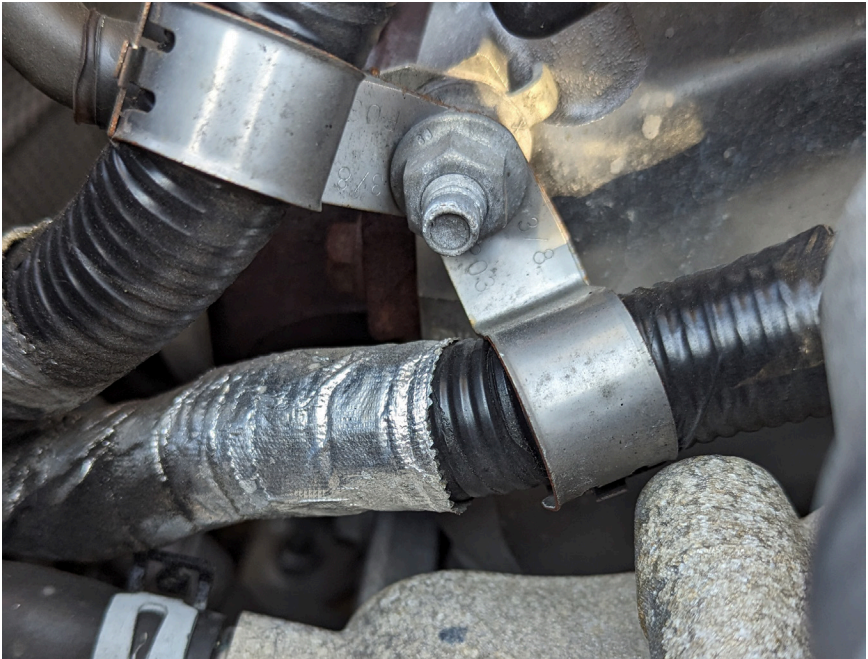

Figure 1 - Stud and Clamps to Remove from Right Side Cylinder Head
5. Remove the stud from the right side cylinder head shown in Figure 1 and set the stud aside.
6. Remove the metal wire harness clamps shown in Figure 1 and set aside.